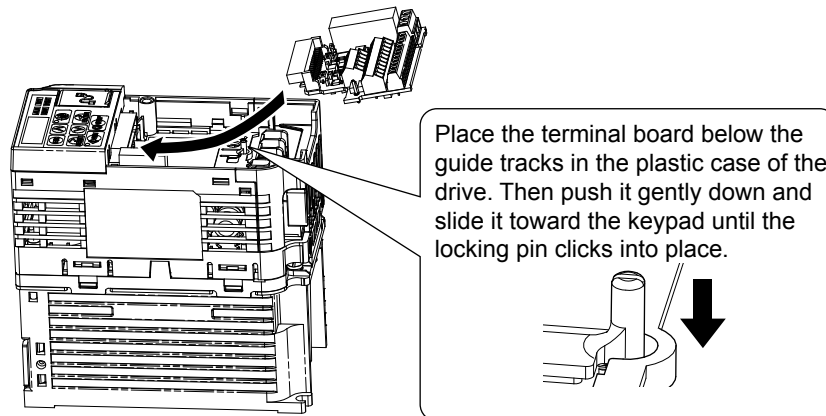

Figure 7.19 Terminal Board Reinstallation
1. Reinstall the removable terminal block on the drive according to Figure 7.19.